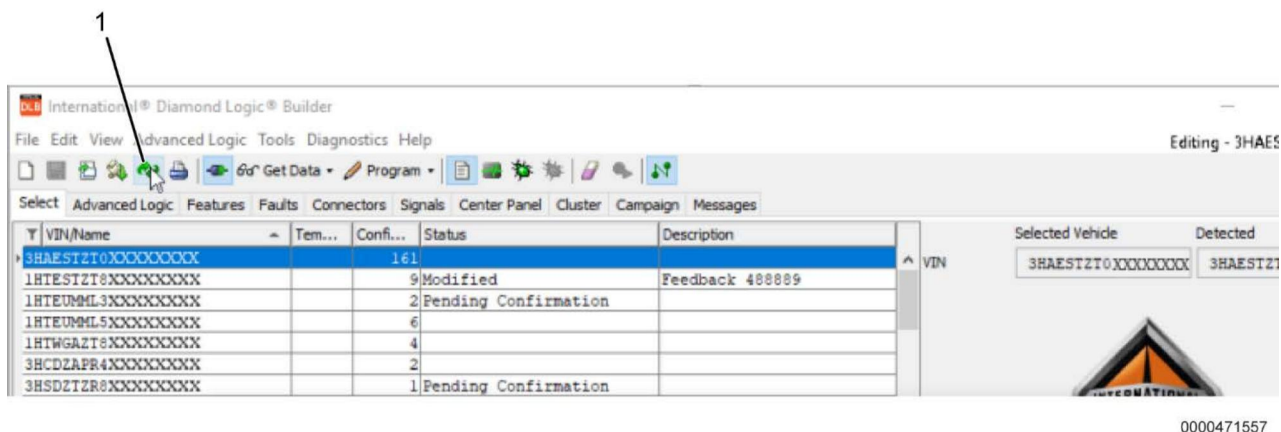

Figure 1. Update All Icon
9. Select **UPDATE ALL** icon (Figure 1, Item 1) in toolbar. DLB will list latest module versions in kernel column.